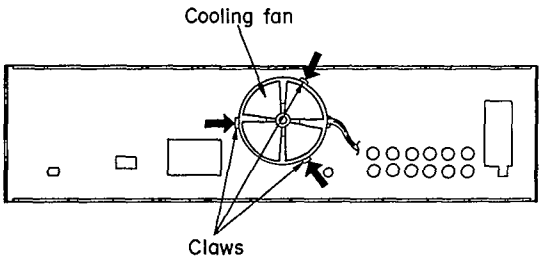

Fig. 1
1. Release the 3 claws in the direction of arrow and remove the fan motor. (Refer to Fig. 1)